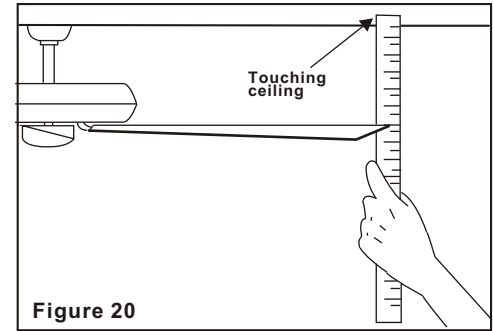

Figure 20
2. Most fan wobbling problems are caused when blade levels are unequal. Check this level by selecting a point on the ceiling above the tip of one of the blades. Measure this distance. (Fig. 20) Rotate the fan until the next blade is positioned for measurement. Repeat for each blade. The distance deviation should be equal within 1/8".